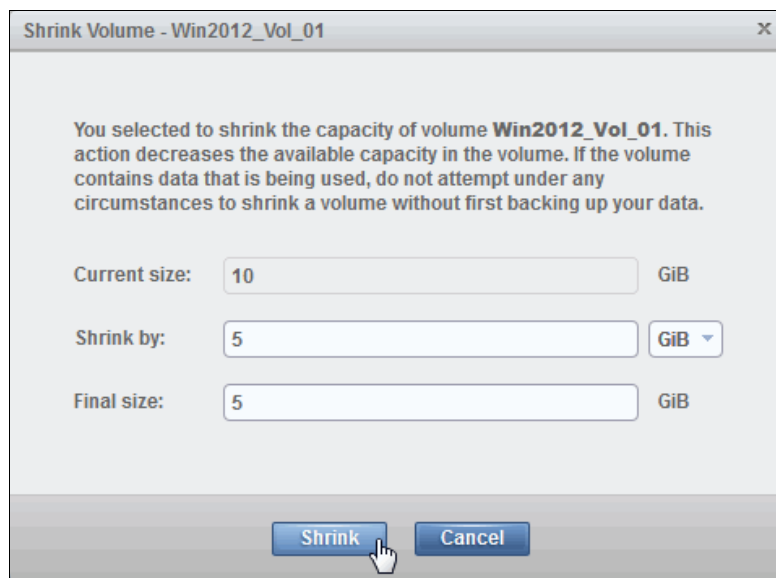

Figure 8-48 Shrink Volume pane
2. Enter the new volume size or by how much the volume should shrink, as shown in Figure 8-48.